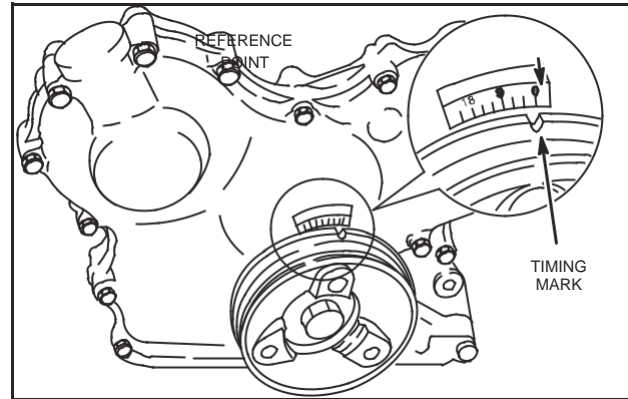

Fig. 42 – Set Cylinder No. 1 at TDC
1. Before adjusting valves, make sure that No. 1 cylinder is at TDC – compression stroke, Fig. 42.